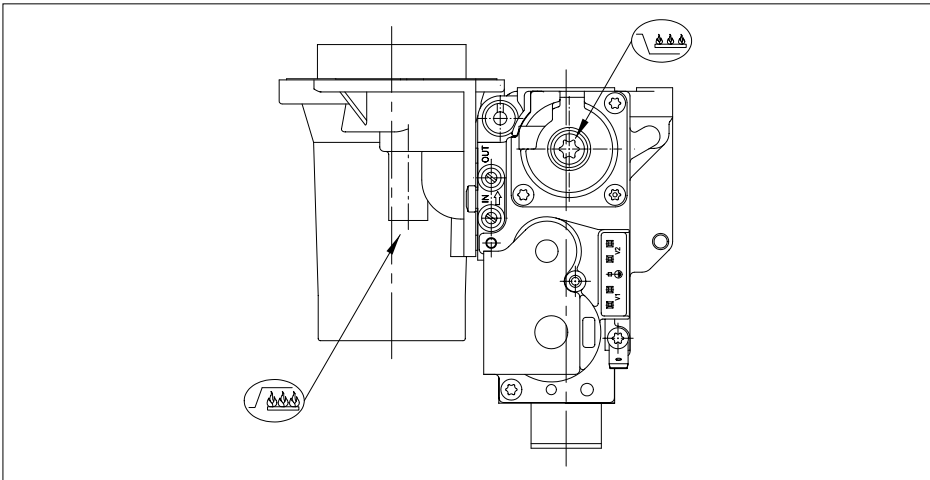

Fig. 21 Setting screws
- 16.3. When full-load speed is reached, check values against the table and adjust if necessary using the screw on the venturi (see *fig. 21*).
- 16.6. When part-load speed is reached, check values against the table and adjust if necessary using the screw on the combi valve (see fig. 21).